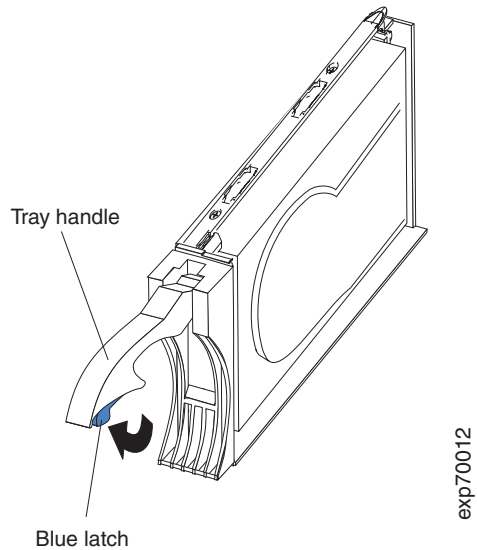

Figure 57. Drive CRU latch
- b. Pull the handle on the tray out so that it is in the open position, as shown in Figure 57 on page 77.
- a. Press on the inside of the bottom of the tray handle to release the blue latch as shown in Figure 57 on page 77.